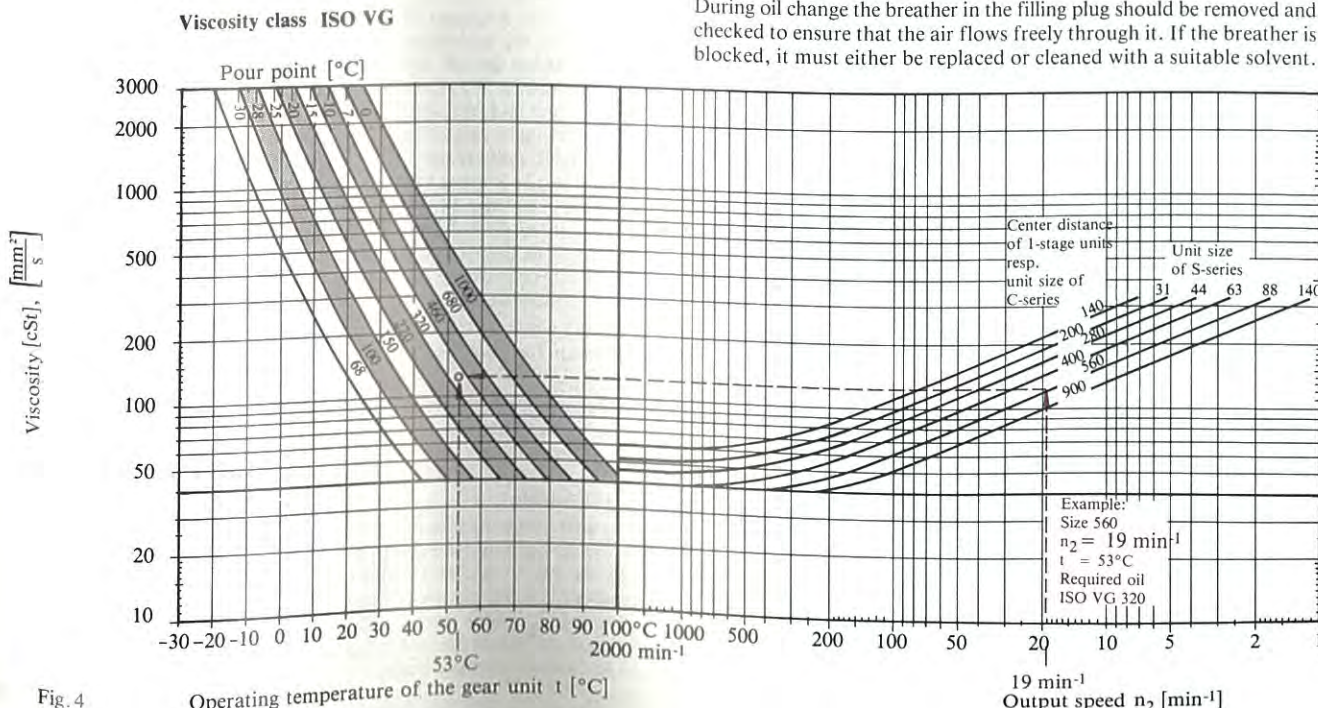

Fig. 4
In connection with incoming orders on gear units we sometimes receive information not fully conforming with the real facts; therefore, our lubrication instructions include a nomograph (fig. 4) which makes it possible to determine the viscosity of the oil required at operating temperature. The situation at cold-starting has to be checked (item 6.4) before the final oil class selection is made.